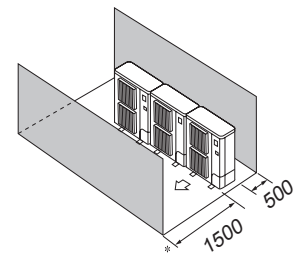

Fig. 4-15
- ④ Obstacles at front and rear only (Fig. 4-15)